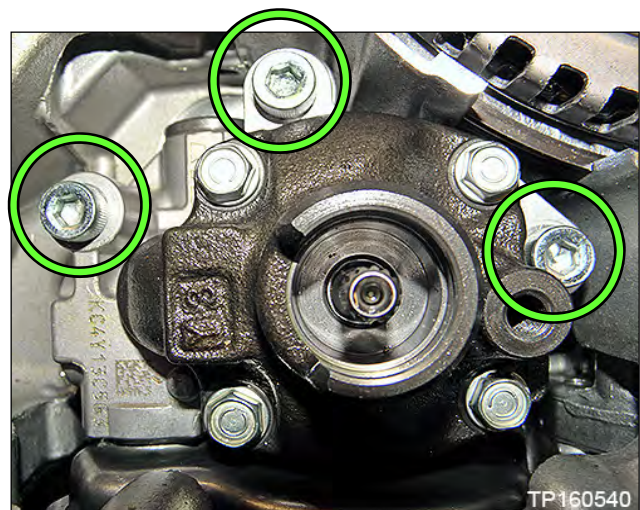

Figure 56
- Remove the three oil pump Allen™-head bolts, and remove the oil pump (Figure 56).